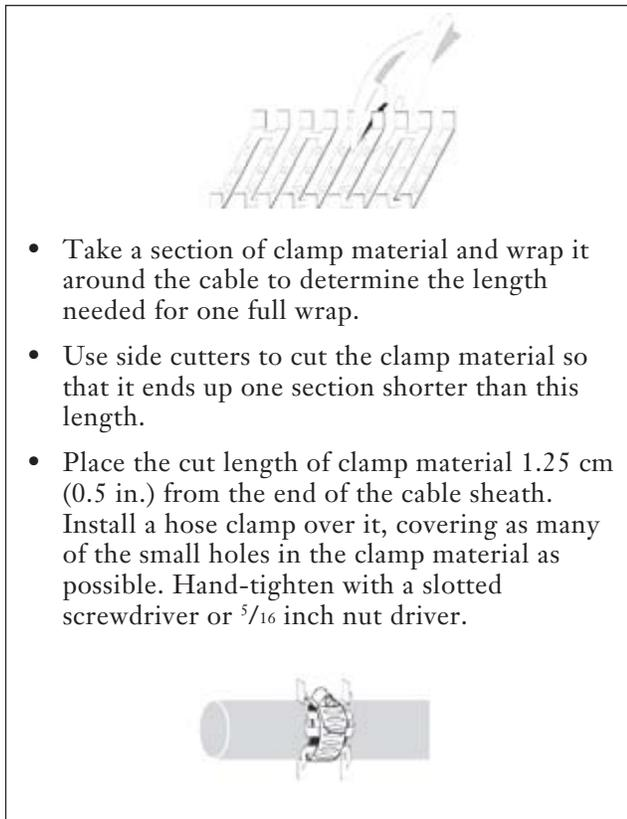

Figure 13
7.7 Install a sheath retention clamp to loose-tube cable as illustrated in Figure 13.